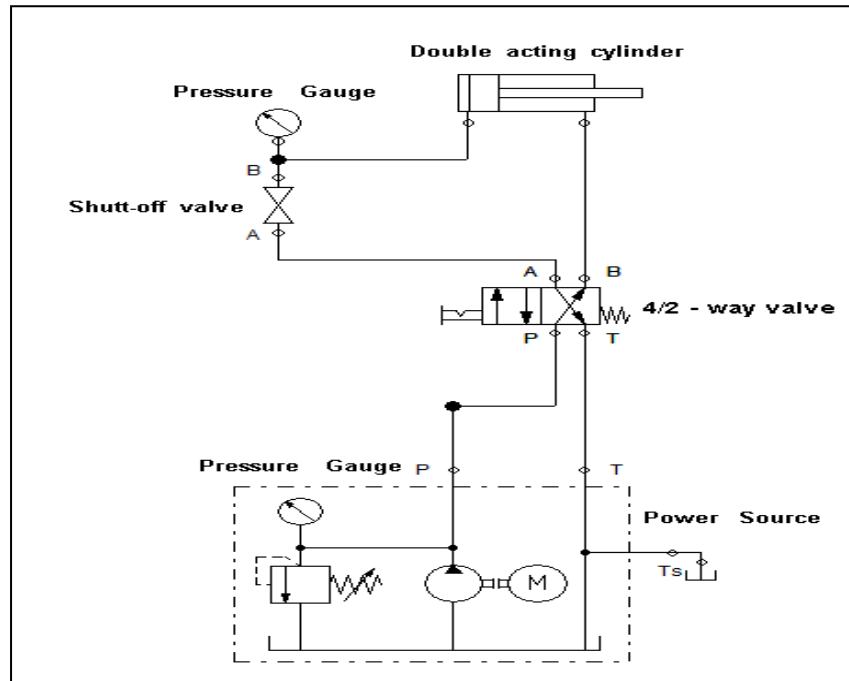

Figure A2(c)/ Figure A2(c)
- (c) Write the working principle of the hydraulic circuit diagram as shown in Figure A2(c).